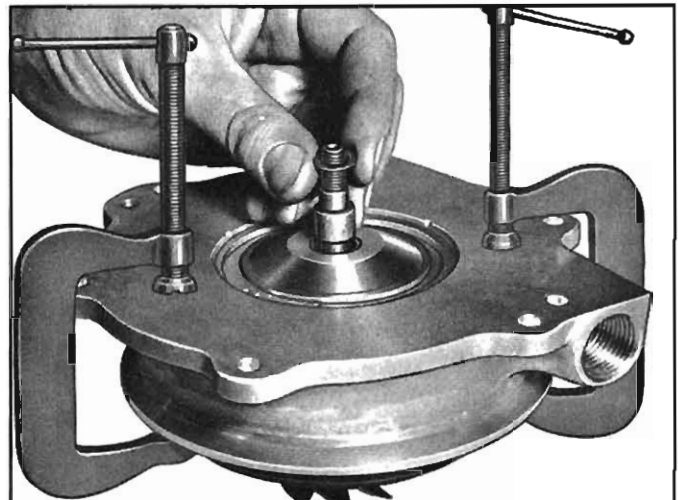

Fig. 54—Shaft Sleeve and Shim Installation
14. Install the shaft sleeve (fig. 54), impeller shim (determined in Step 8f) and start the impeller on the turbine shaft.